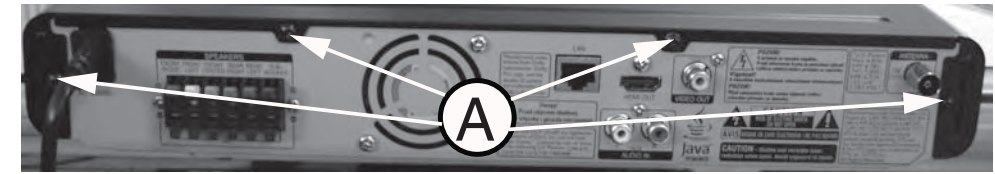

Figure 4
- 4 screws "A" at the back panel as shown in figure 4.